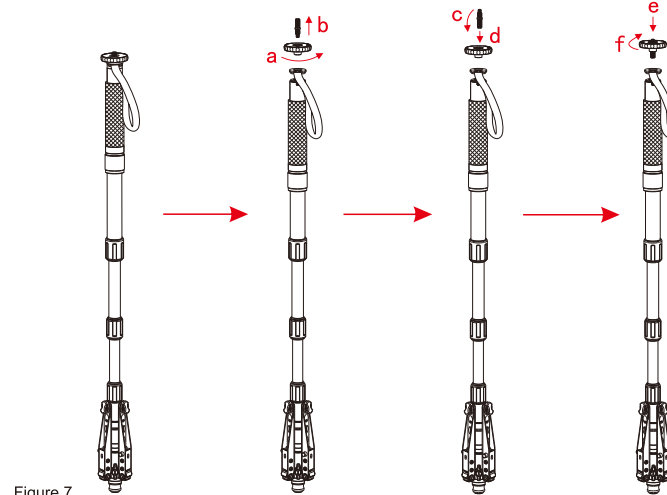

Figure 7
2. Monopod Function (Figure 7)